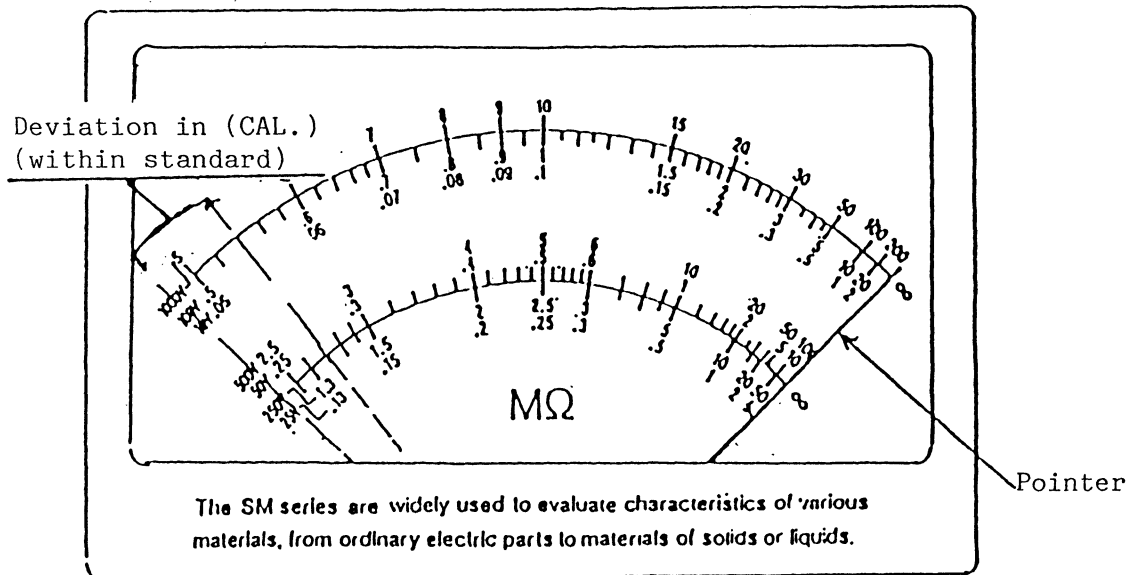

Figure 22 The Tolerance of Deviation in (CAL.)
- . Set the charge/discharge switch ⑤ to MEASURE. (For the SM-8001, set the TIME switch 21 to TEST.)
- . Set the RANGE switch ⑦ to CAL. In this case, it is acceptable if the indicator pointer is within the range shown in Figure 22.
This operation is common for each voltage and thus performing calibration at any voltage also performs calibration for other voltages. However, the pointer does not always align with the red line because of the relationship between the measurement voltage and amplifier gain. For the tolerance of deviation, see Figure 22. As long as the pointer is within the range shown in Figure 22, it falls within the standard of the instrument.